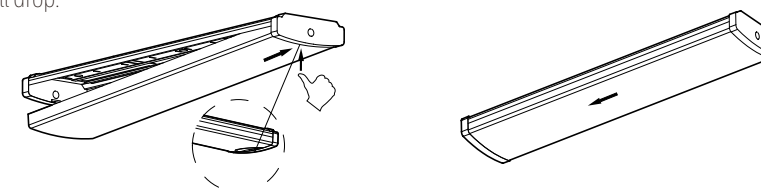

Figure 5
Insert and press one end of the diffuser (B) into the lamp base (A), making sure that the diffuser (B) is completely placed on the lamp base (A), slide the diffuser (B) to the other end. Restore power to the fuse box and turn light switch on to activate the fixture. (Figure 5)